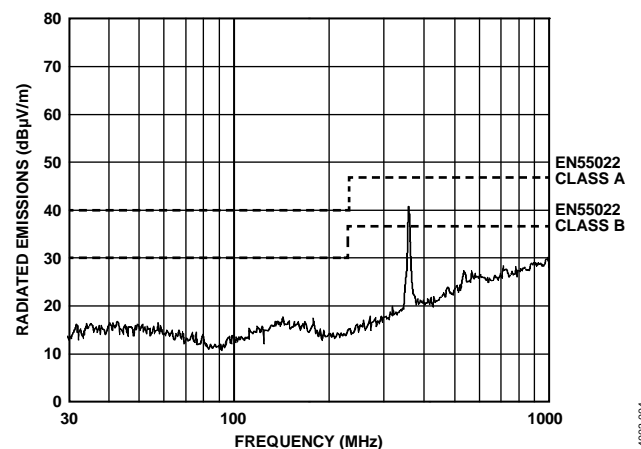
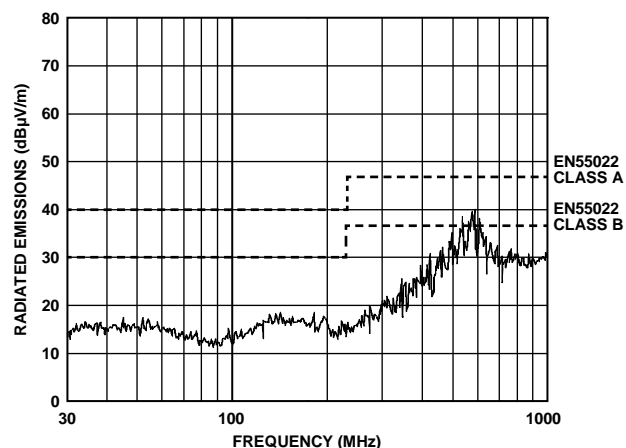

Figure 4. Horizontal Scan from 30 MHz to 1000 MHz
Figure 9. Horizontal Scan from 30 MHz to 1000 MHz
The EVAL-ADM2582EEMIZ and EVAL-ADM2587EEMIZ evaluation boards are configured and tested with 3.3 V V_{CC} or 5.0 V V_{CC} power supplied to the ADM2582E and ADM2587E devices, with the power supplied from the ADP667ARZ regulator output to V_{CC} (Pin 8). The ADP667ARZ regulator input is supplied from a standard 9 V battery. All EN55022 radiated emissions testing is performed with 9 V batteries. Testing is performed at 500 kbps clock (ADM2587E) or 16 Mbps clock (ADM2582E), with the clock supplied by the on-board oscillator. The ADM2587E/ADM2582E transceiver is connected in full-duplex mode and the bus pins are loaded with a 54 Ω termination resistor (maximum bus loading). Measurements are carried out in an anechoic chamber at 10 m from 30 MHz to 2 GHz. Figure 4 to Figure 9 show the results of the worst case horizontal scans and Table 3 to Table 8 show the tabulated quasi-peak (QP) results.